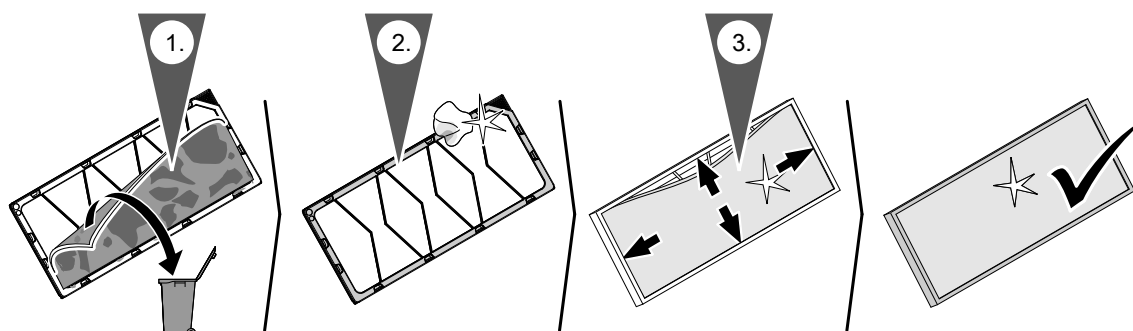

Fig. 21
■ For coarse filters G4 (= ISO Coarse 60 %), only replace the filter fleece that is in the filter frame; see Fig. 21.